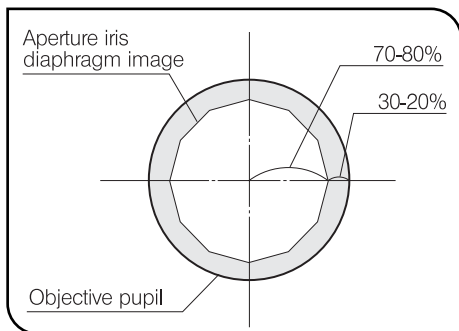
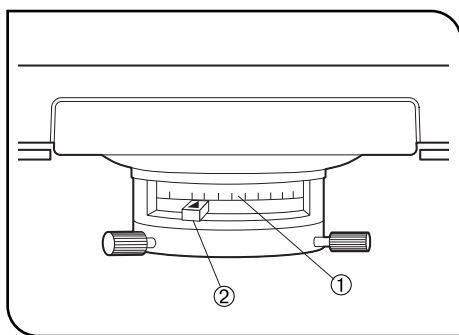

Fig. 17
Fig. 18
2 Aperture Iris Diaphragm (Figs. 17 & 18)
- The aperture iris diaphragm determines the numerical aperture of the illumination system. Matching the numerical aperture ① of the illumination system with that of the objective provides better image resolution and contrast, and also increases the depth of focus.
- Since the contrast of microscope specimens is ordinarily low, setting the condenser aperture iris diaphragm to between 70% and 80% of the NA of the objective in use is usually recommended. If necessary, adjust the ratio by removing the eyepieces and looking into the eyepiece sleeves while adjusting the aperture iris diaphragm knob ② until the image shown in Fig. 17 is seen. (Fig. 18)
When using a 100X objective, turn the aperture iris diaphragm knob ② all the way to 0.9 on the scale. (Fig. 18)